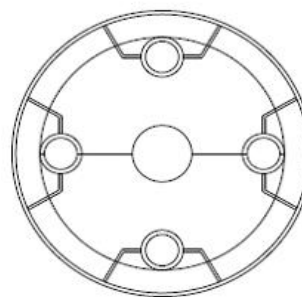

Fig.1-2
- Place canopy (F) over the mounting plate (N) and secure with screws (Z).
- Secure chain (M1) to hole (V1), chain (M2) to hole (V2), and chain (M3) to hole (V3) with the screws provided (Fig.1-2)
- Install the bulbs (P) into sockets (S). (4 × Max 100W) **DO NOT EXCEED THE SPECIFIED WATTAGE! (NE PAS DEPASSER LA PUISSANCE NOMINALE MAXIMALE!)**